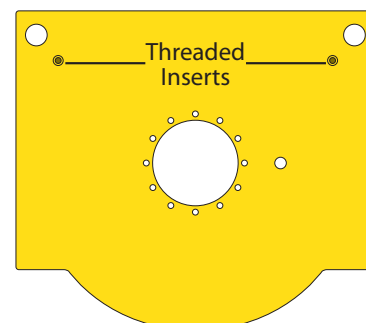

FIG. 26
Insert 2 Hex Head Bolts (G17) down through the threaded inserts on the Wall Bracket (F). Finger tighten only [FIG. 26].